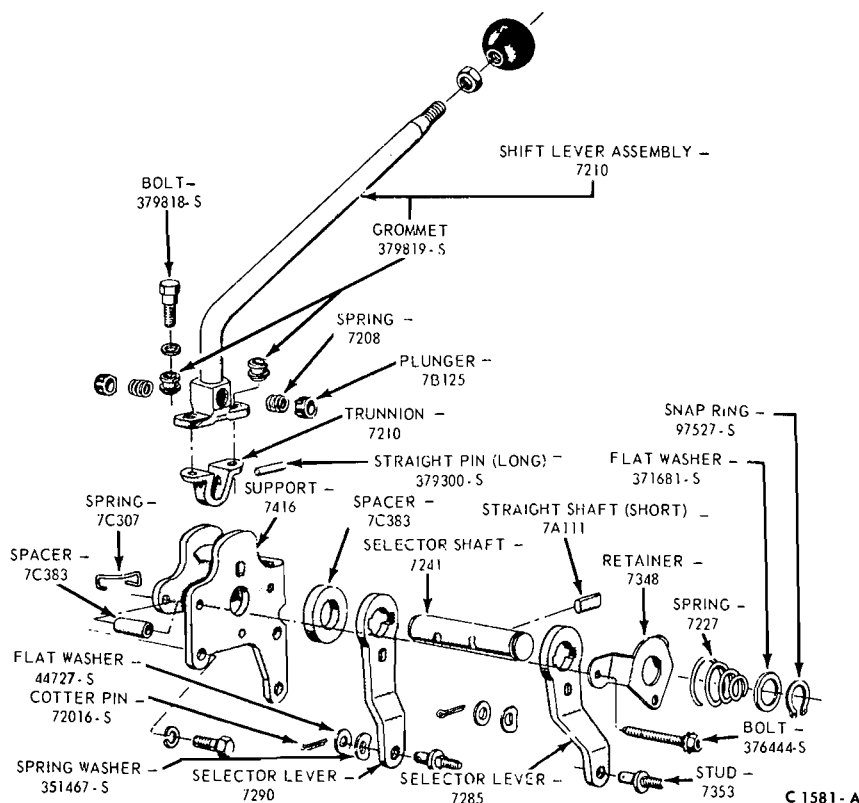

FIG. 14—Gear Shift Lever Disassembled — Typical
1. Remove the snap ring from the end of the selector shaft with pointed snap ring pliers (Fig. 14).
10. Install the levers and spacer on the shaft as shown in Fig. 14.